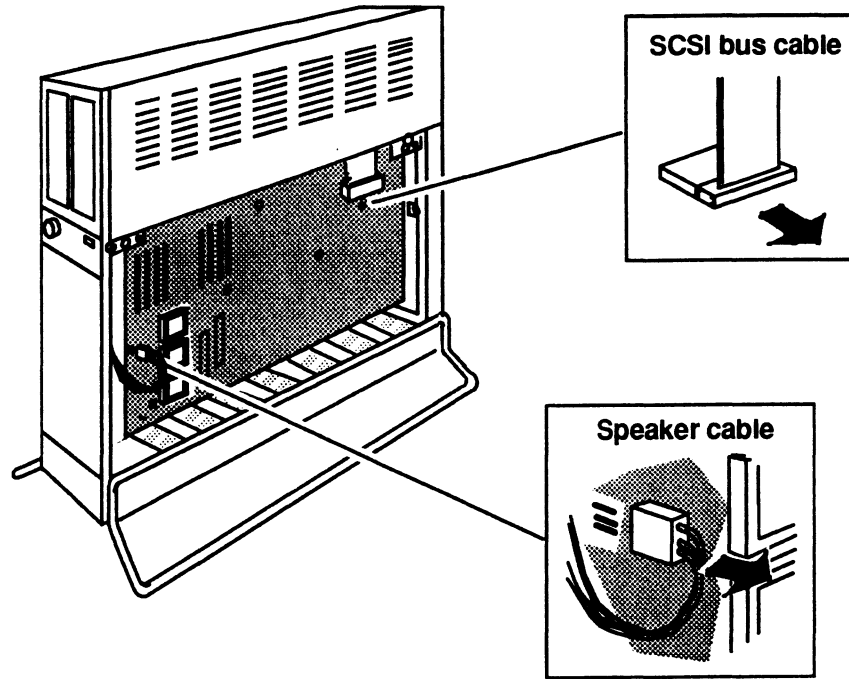

Figure 5-3 Unplugging the Speaker and the SCSI Bus Cables from the System Board
3. Unplug the speaker and SCSI bus cables from the system board as shown in Figure 5-3.